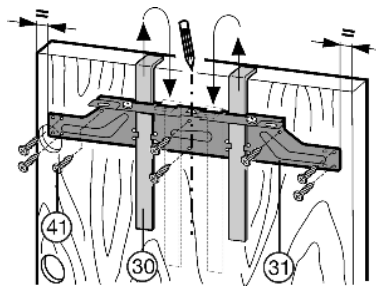

Fig. 22
- ▶ Unscrew the crosspiece Fig. 22 (31) by undoing the locknuts Fig. 22 (32).
- ▶ Hang the crosspiece Fig. 22 (31) on the inside of the unit door using the fitting aids Fig. 22 (30).
- ▶ To center the crosspiece Fig. 22 (31): Mark a short center line on the unit door and place the tip of the arrow on the crosspiece over it.
- ▶ To align the crosspiece Fig. 22 (31): Mark a short center line on the unit door and place the tip of the arrow on the crosspiece over it. Now shift the crosspiece Fig. 22 (31) 3/16 in. (5.5 mm) towards the hinge side.
- ▶ Fasten the crosspiece Fig. 22 (31) with at least 6 screws Fig. 22 (41).
- ▶ Fasten the crosspiece Fig. 22 (31) with 4 screws Fig. 22 (41) at the edge.
- ▶ Lift up the fitting aids Fig. 22 (30), turn them around, and insert them into the adjacent openings.